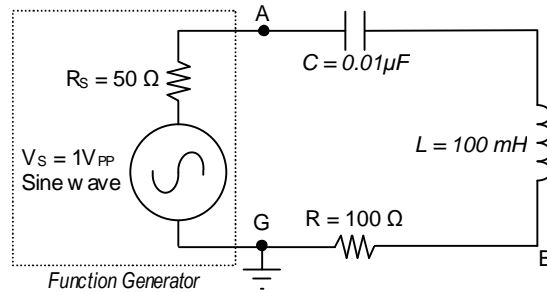

Figure 6.3
- For the circuit shown in Figure 6.3, calculate predictions for f_o , Q , BW, f_1 , and f_2 . Don't forget to include the impedance of the function generator ($R_S \approx 50 \Omega$) and R_W as part of
- Construct the circuit shown in Figure 6.3. Adjust the function generator to generate a sine wave with voltage 1.0 V_{PP}. Initially set the frequency to 1 kHz.